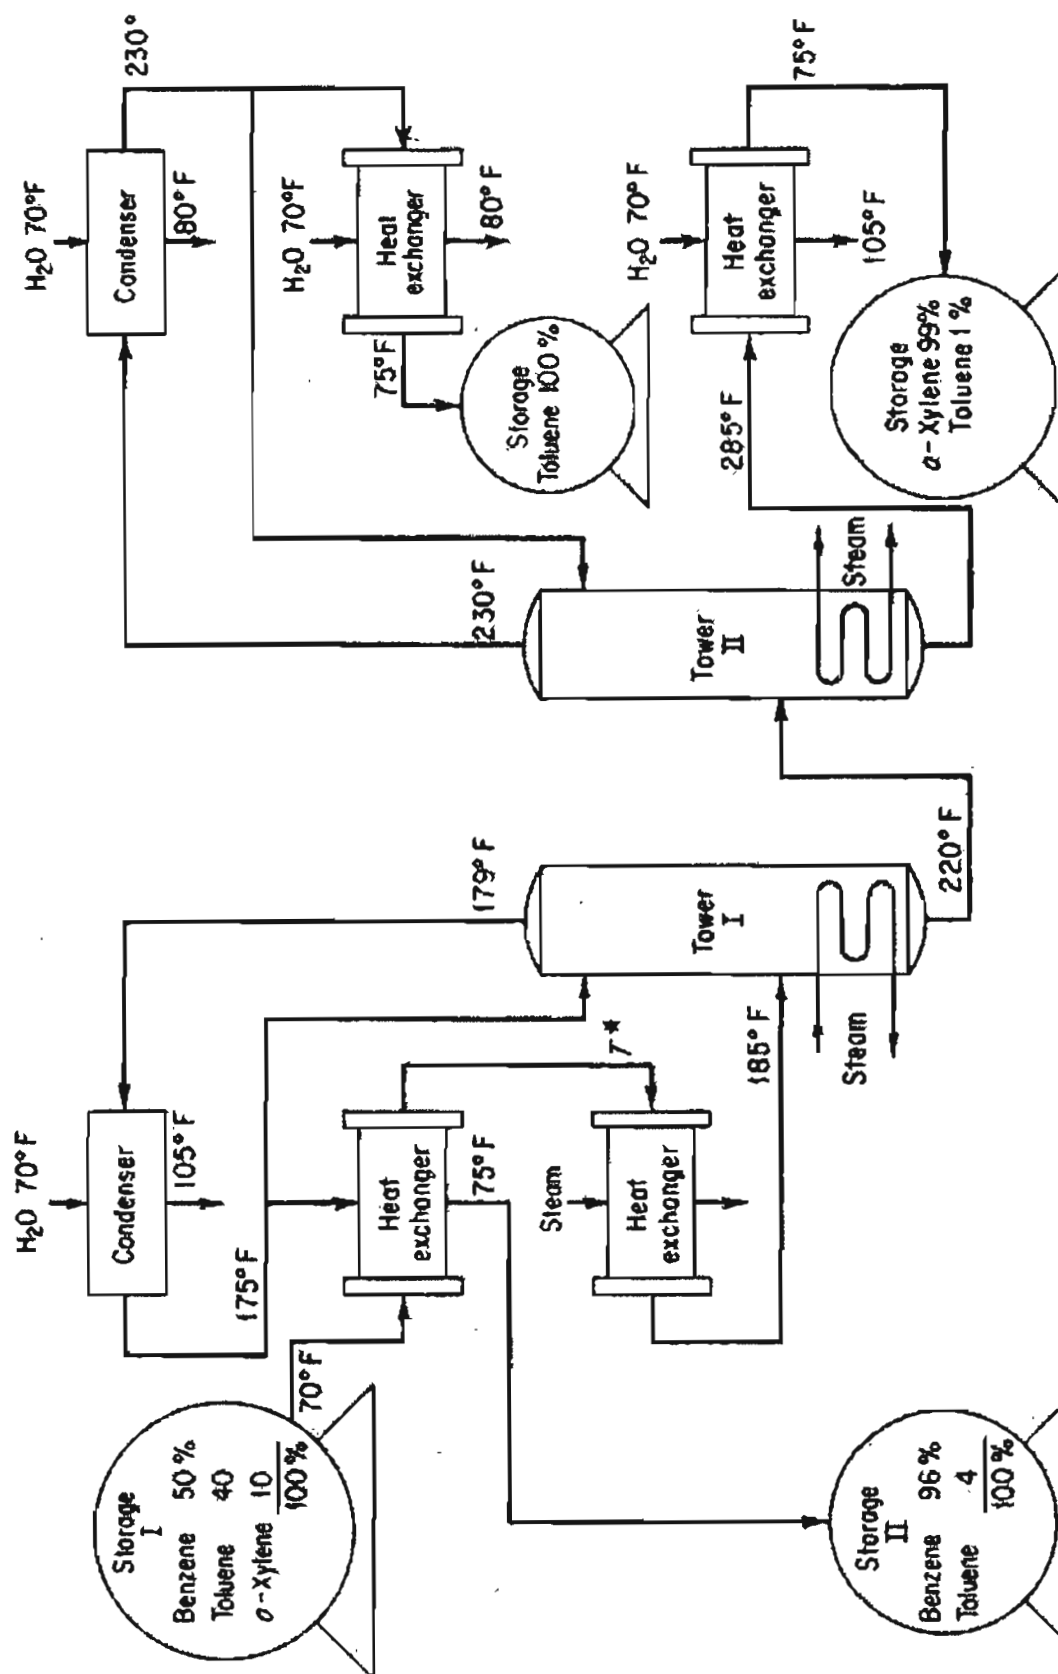

Figure P31.9
- 31.9 One hundred thousand pounds of a mixture of 50% benzene, 40% toluene, and 10% *o*-xylene is separated every day in a distillation-fractionation plant as shown on the flowsheet for Figure P31.9.